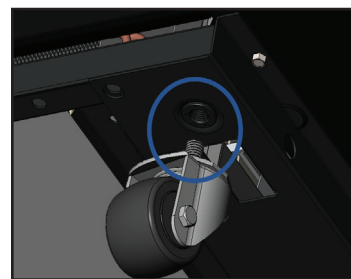

Fig. 4. Loosen castor bolt.
1. Loosen the castor bolt enough to slide the provided castor shims between the castor bearing and the bottom rail of the cabinet. See fig. 4.